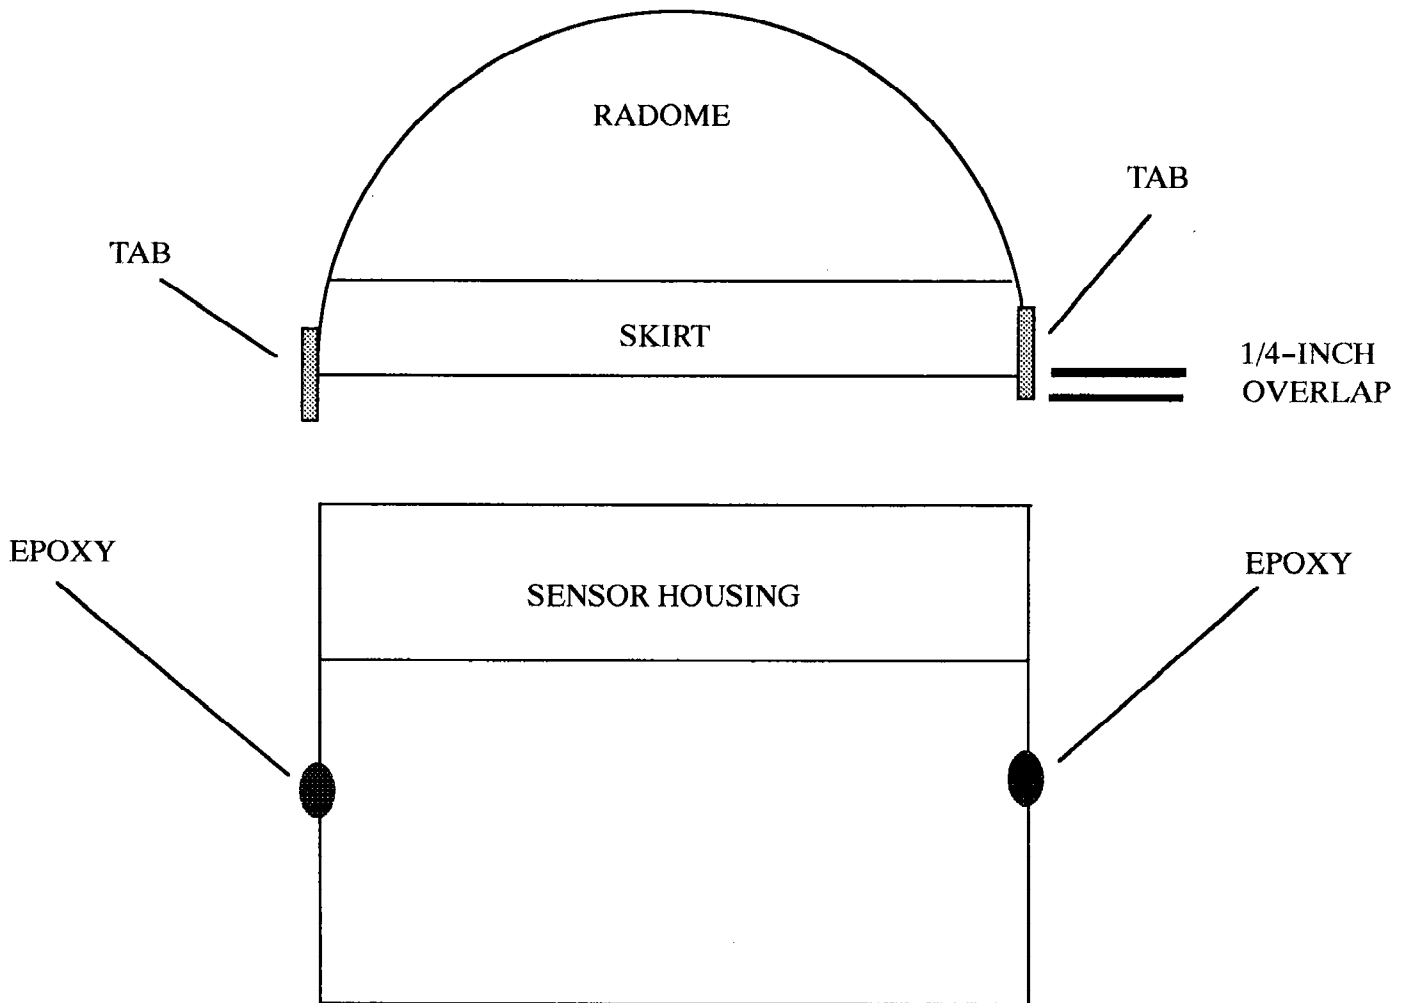

Figure 4. Radome, With Tabs
(7) Apply mixed epoxy adhesive on sensor housing where tabs will be attached (see Figure 4 ). Apply to approximate thickness of 1/32-inch to 1/16-inch.
(8) Align tabs with bonded area of housing and slide radome on sensor housing. Ensure that adhesive does not contact spiral circuit or sensor housing interface area.
(9) Rotate radome on sensor housing approximately 5 degrees back and forth to ensure good wetting of housing.